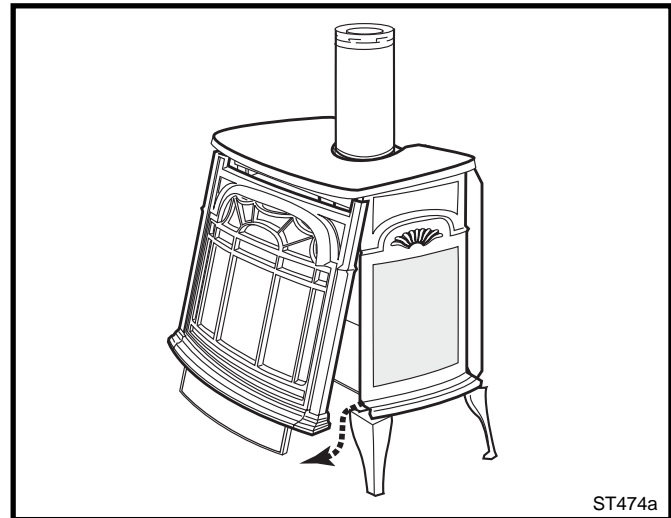

Fig. 42 Remove stove front.
1. Remove stove front. Lift stove front up and then swing bottom out and away to disengage from the stove body. (Fig. 42)